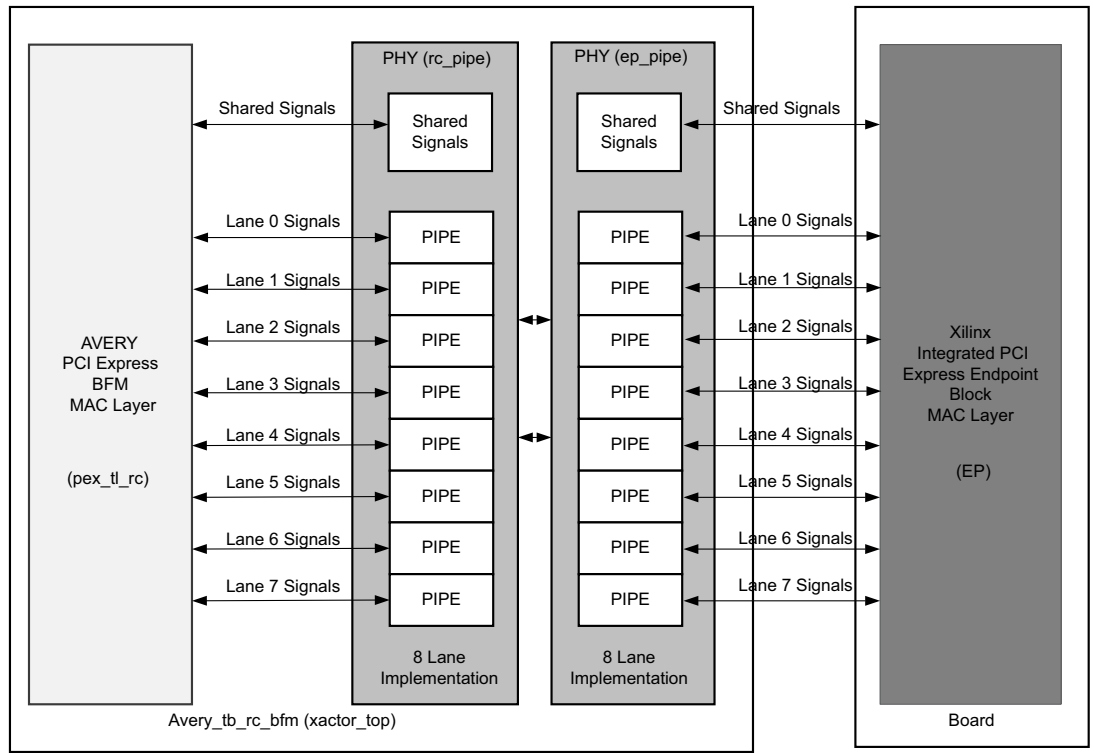

Figure 1: Block Diagram
The PCI Express PIPE 2.0 and PIPE 3.0 specifications [Ref 1] provides information about combining multiple PIPEs for multi-lane designs. The PIPE mode simulation uses a model from the Avery Design Systems BFM as a Root Complex (RC) and Xilinx Integrated PCI Express Endpoint block (EP) for an 8-lane design operating at the Gen2 rate (Figure 1). For more details about shared signals and per-lane signals, see the PCI Express PIPE 2.0 and PIPE 3.0 specification [Ref 1].